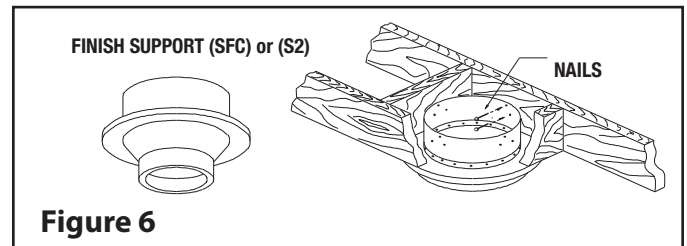

Figure 6
Step 3. From below push the finish support into the framed opening. Nail or screw the support to the framed box using (12) 3" spiral nails or #8 x 1 1/2" wood screws (see Figure 6).